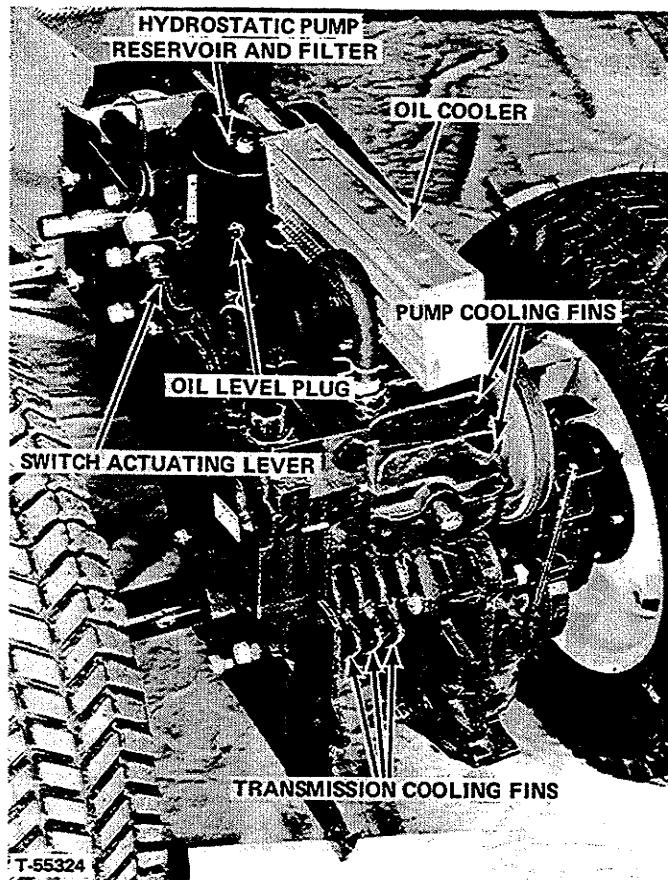

FIGURE 17 - Parts Removed For Clarity
At same time place a small quantity of pressure gun grease on the tip of switch actuating lever where it contacts trigger of the interlock safety switch (Figure 17).
3. Check the hydrostatic oil level (Figure 17). To be certain of satisfactory performance it is important that the hydrostatic oil is kept absolutely clean and that the level of oil in the oil reservoir be maintained. Before checking the hydrostatic oil level, be certain the outside of the hydrostatic oil reservoir is clean and that no debris can enter the reservoir.
4. Hydrostatic oil filter (Figure 17) - The hydrostatic oil filter in the bottom of the reservoir should be changed only when dirt gets into the hydrostatic system. To change the filter, remove the nut and cover from top of reservoir. Have a container ready to catch the oil and disconnect one of the hoses at the bottom of the oil reservoir. Raise the end of the hose and tie it up so oil will not run out of the pump assembly. Drain the oil from the reservoir into the container.
5. Keep the pump cooling fins on the hydrostatic pump, and the transmission cooling fins clean for more efficient operation (Figure 17).